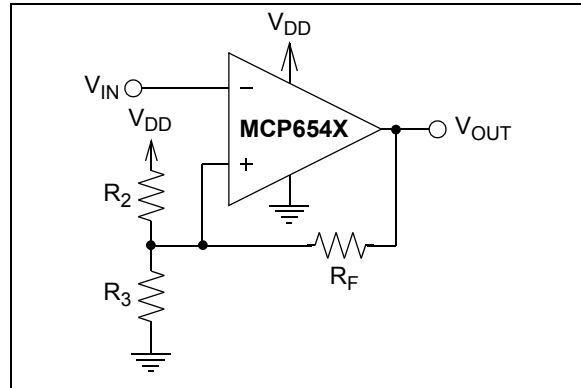
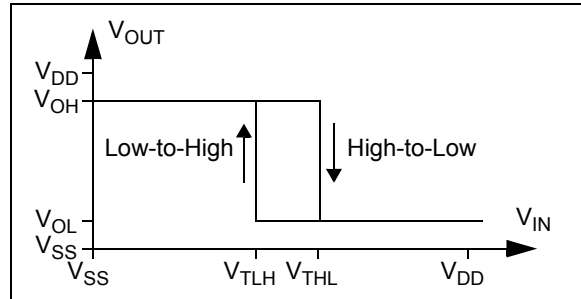
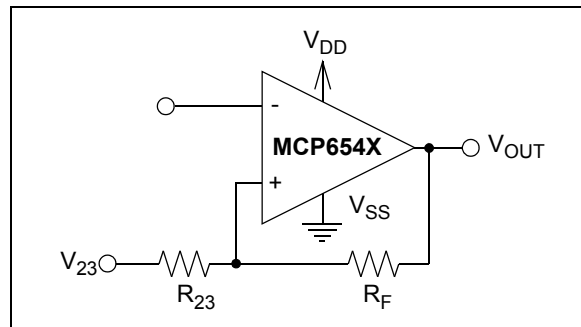

FIGURE 3-5: Inverting Circuit With Hysteresis.
FIGURE 3-6: Hysteresis Diagram for the Inverting Circuit.
FIGURE 3-7: Thevenin Equivalent Circuit.
Figure 3-5 shows an inverting circuit for single-supply using three resistors. The resulting hysteresis diagram is shown in Figure 3-6.
In order to determine the trip voltages (V_{THL} and V_{TLH}) for the circuit shown in Figure 3-5, R_2 and R_3 can be simplified to the Thevenin equivalent circuit with respect to V_{DD} , as shown in Figure 3-7.
1. Inverting Configuration (Figures 3-5 and 3-8):